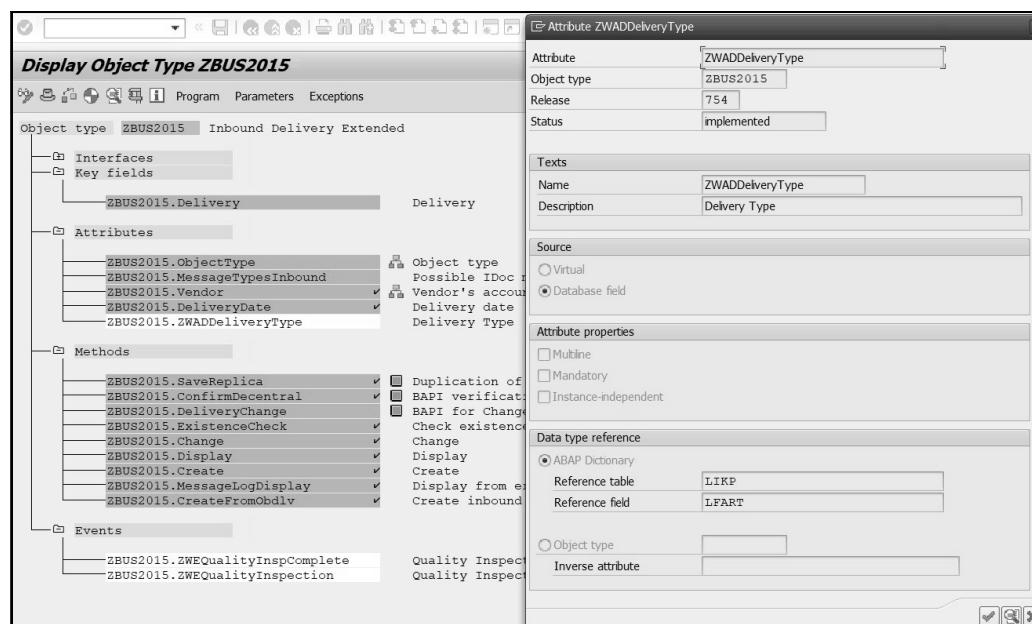

Figure 5.31 Creation of a Custom Attribute in the BOR Subtype Definition
2. Ensure that the field(s) to be used in the start condition exist as attribute(s) in the BOR type of the event. In this example, you need the **Delivery type** as an attribute in business object type BUS2015. Because this attribute doesn't exist in the standard, you must create a custom attribute in the delegated subtype ZBUS2015, as shown in Figure 5.31. (Refer to Chapter 3, Section 3.1.2, for details on how to create a database attribute in a business object type.) We've created custom database attribute ZWADeliveryType for this purpose.